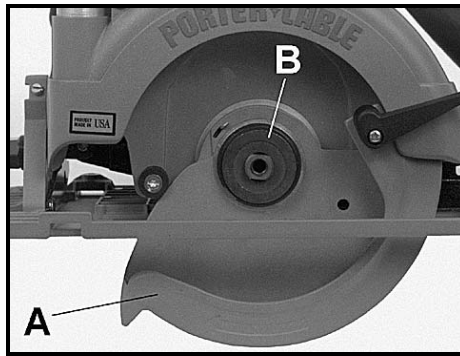

Fig. 3
**⚠ WARNING:** The telescoping guard (A) Fig. 3, is a safety device important to your protection. Every time you use the saw, see that the telescoping guard rotates freely and returns quickly and completely to its closed position. At least once a month, remove any accumulated sawdust, pitch, etc., from the area around the hub (B), of the telescoping guard. **DO NOT LUBRICATE THIS AREA.** The hub has a dry film lubricated surface that does not need oiling. **NEVER** block or wedge the telescoping guard in the open position.